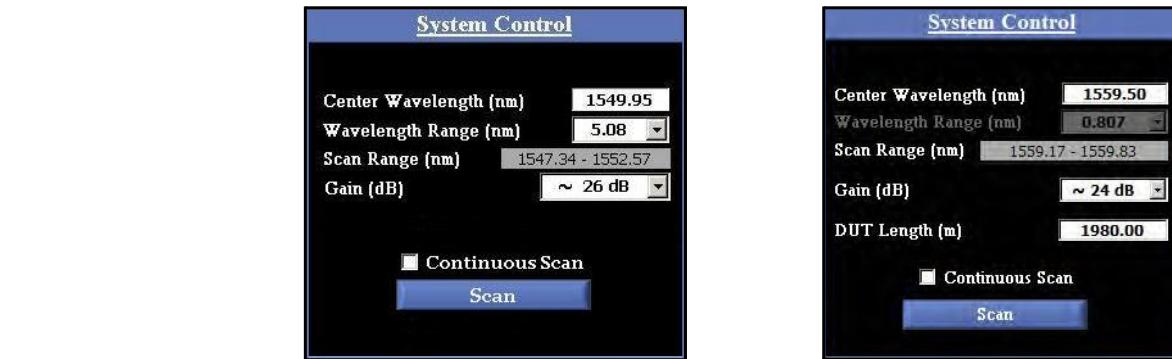

Figure 4-6. The **System Control** area in the main OBR software window, shown in **Normal** (left) and **Extended** (right) **Distance Range** modes.
- 5** Enter an appropriate **Center Wavelength** in the **System Control** area (Figure 4-6).
- 10 Click **Scan** in the **System Control** area (Figure 4-6).
- 3 Click **Scan** in the **System Control** area (Figure 4-6).